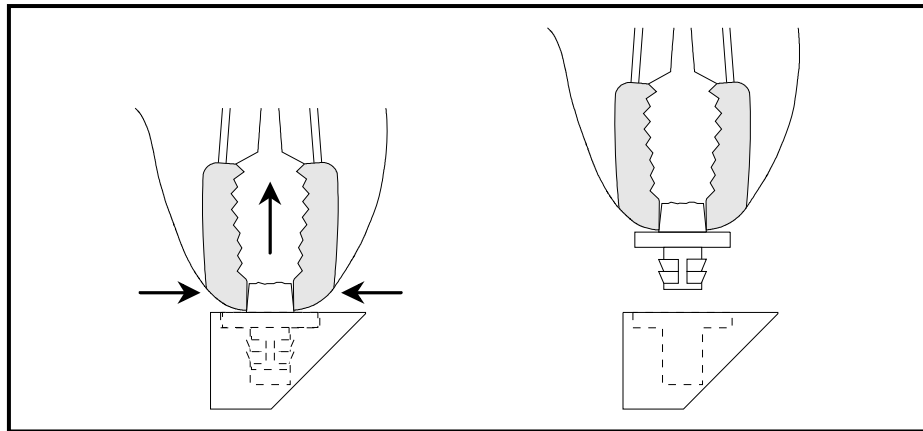

Figure 2.4 - Removal of broken grille pin. Check for pin fragments in the mounting hole.
2. Remove the damaged grille pin by pulling it straight out with a small pliers or similar tool. Please refer to figure 2.4. Make sure that the complete pin is removed and that there are no pin fragments left in the mounting hole.